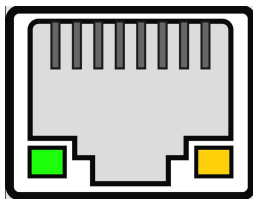

Fig. 18
2. Connect the cable to the ethernet ports on both devices(see Fig. 18).